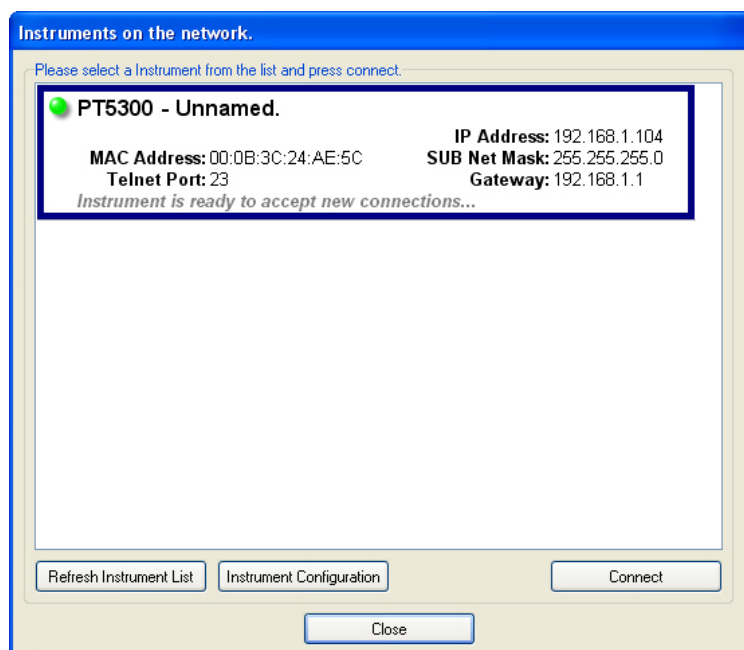

Figure 10: The NetFinder Window.
- When the NetFinder window is visible, click “Refresh Instrument List”. (Figure 10).
- The text field allows you to change the NetFinder name. When multiple PT5300's are connected to the LAN the NetFinder name is used for easy identification in the Instrument List (*Figure: 10*).
When checked, the instrument list in the NetFinder window will show the MAC address, Telnet Port and IP information for every instrument discovered on the LAN. If un-checked, only the NetFinder name and connection status is shown. (*Figure: 10*)